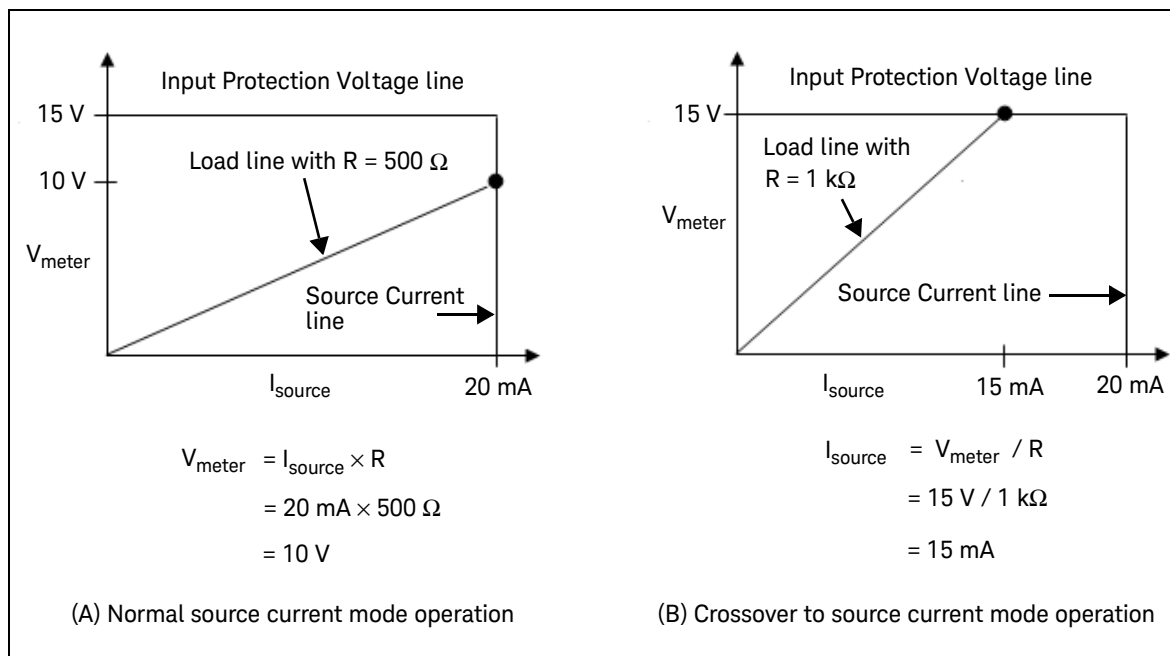

Figure 2-8 Source current operation
Figure 2-8 shows the operation with different resistive loads, which are $1\text{ k}\Omega$ and $100\ \Omega$ respectively. In these examples, the U2722A/U2723A is having a source current of 20 mA and an input protection voltage of 15 V.
In **Figure 2-8 (A)**, the U2722A/U2723A is having a source current of 20 mA to a 500Ω load and it is measuring 10 V. As long as the DUT load line intersects the source current line, it will be in source current mode and the current will maintain at 20 mA. However in **Figure 2-8 (B)**, it shows that when the resistance of the DUT increases to $1 \text{ k}\Omega$, the DUT load line intersects the input protection voltage line. This forces the U2722A/U2723A to go into source voltage mode. Since the voltage setting is clamped at 15 V and the U2722A/U2723A cannot operate out of the boundary, the current then changes to 15 mA instead.